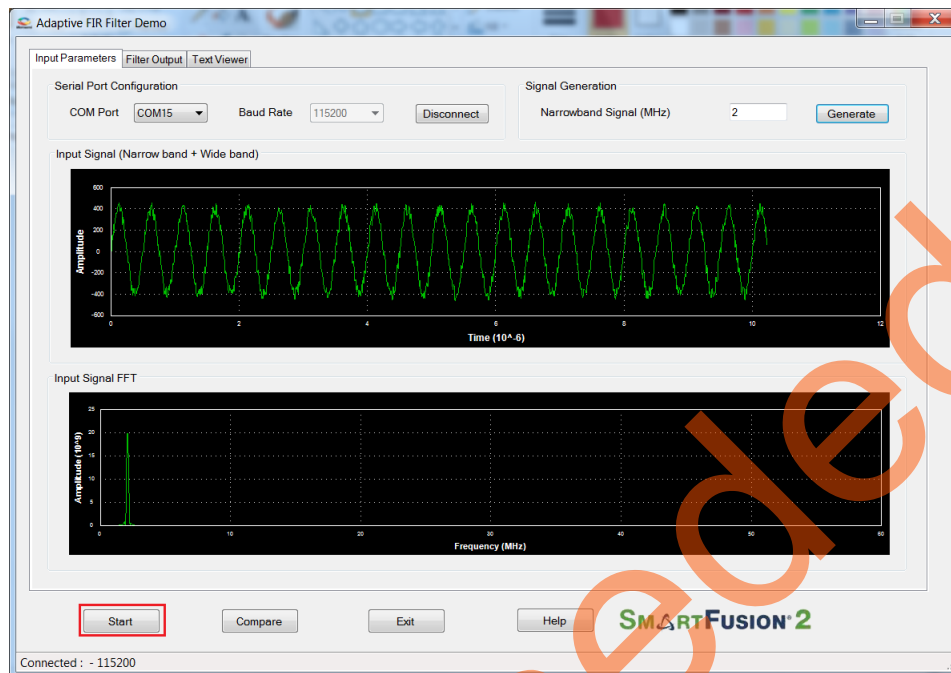

Figure 19 • Adaptive FIR Filter Demo Start
- Click **Start**, to load the input data (1K samples) to the SmartFusion2 device for processing the filtering operation, refer to Figure 19.